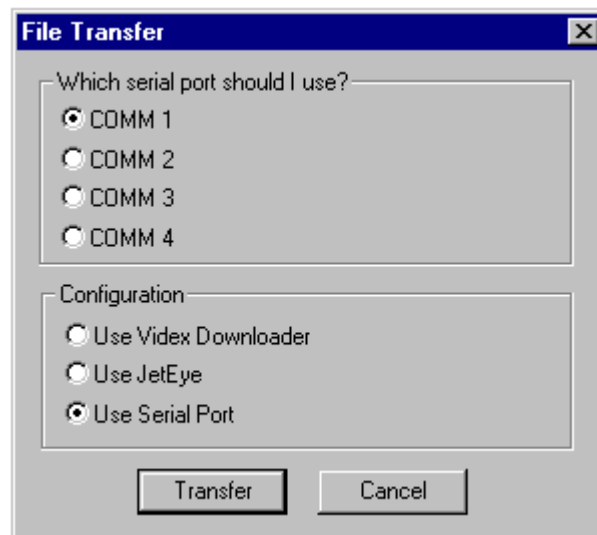

Figure 3-80 File Transfer Window
68. The **File Transfer** window is displayed (Figure 3-80). If you are using a Base Station, select the serial port it is connected to and the **Videx Downloader** configuration. If you are using an external IR transceiver, select the serial port it is connected to and **Use Serial Port** configuration.